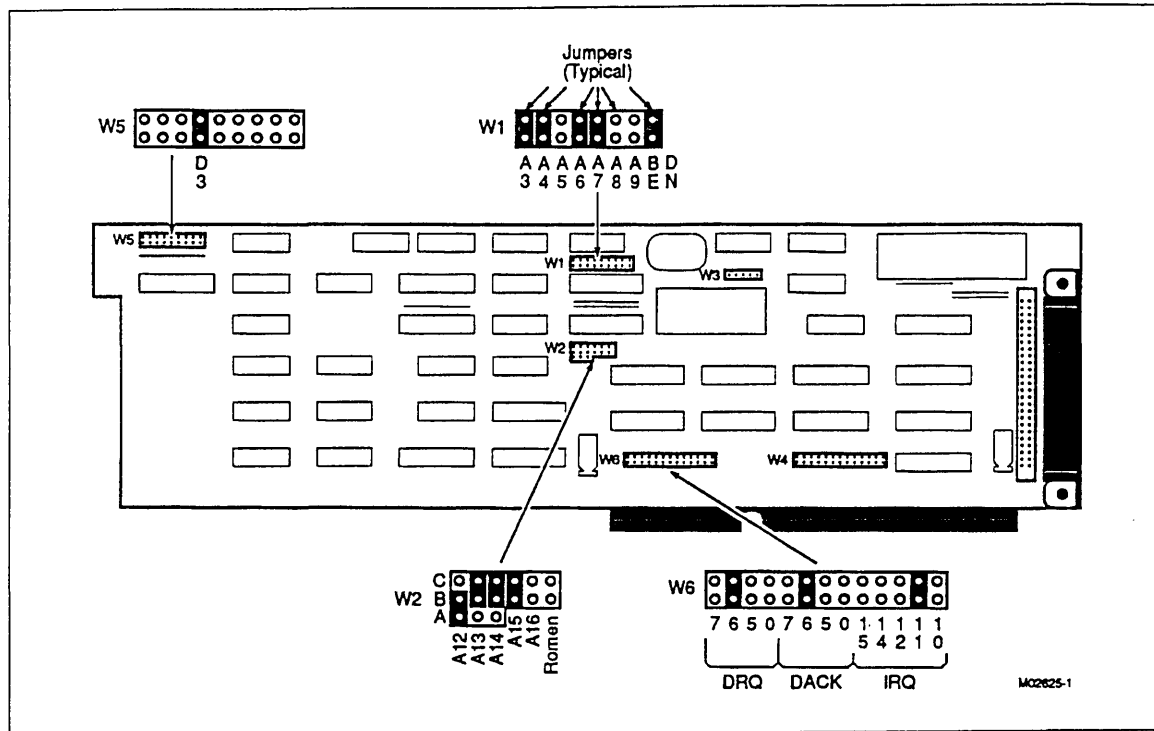

Figure 7-7. Jumper Strap Locations on SE SCSI Board for Card Slot 3
- a. If installing a new SE SCSI board in card slot 3, set its jumper positions to those of the card removed from the same slot. These positions are as follows (see also figure 7-7).